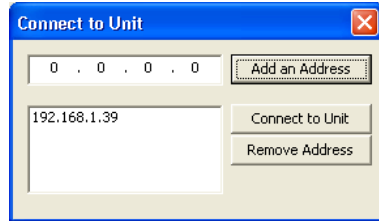

Figure 12: Connect to Unit Window
- The Connect to Unit window if you need to enter a new IP address (see Figure 12)